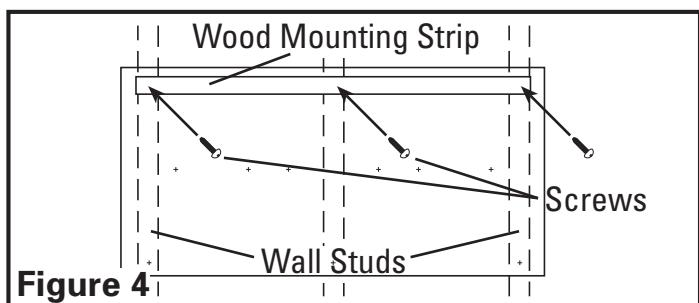

Figure 4
2. Using the template as a guide, place the wood strip that was removed in **Section 1 Step 2** on top of the template and confirm it is level. Secure in place using the provided 2" mounting screws making sure the screws are fastening into the wall studs (**Figure 4**).